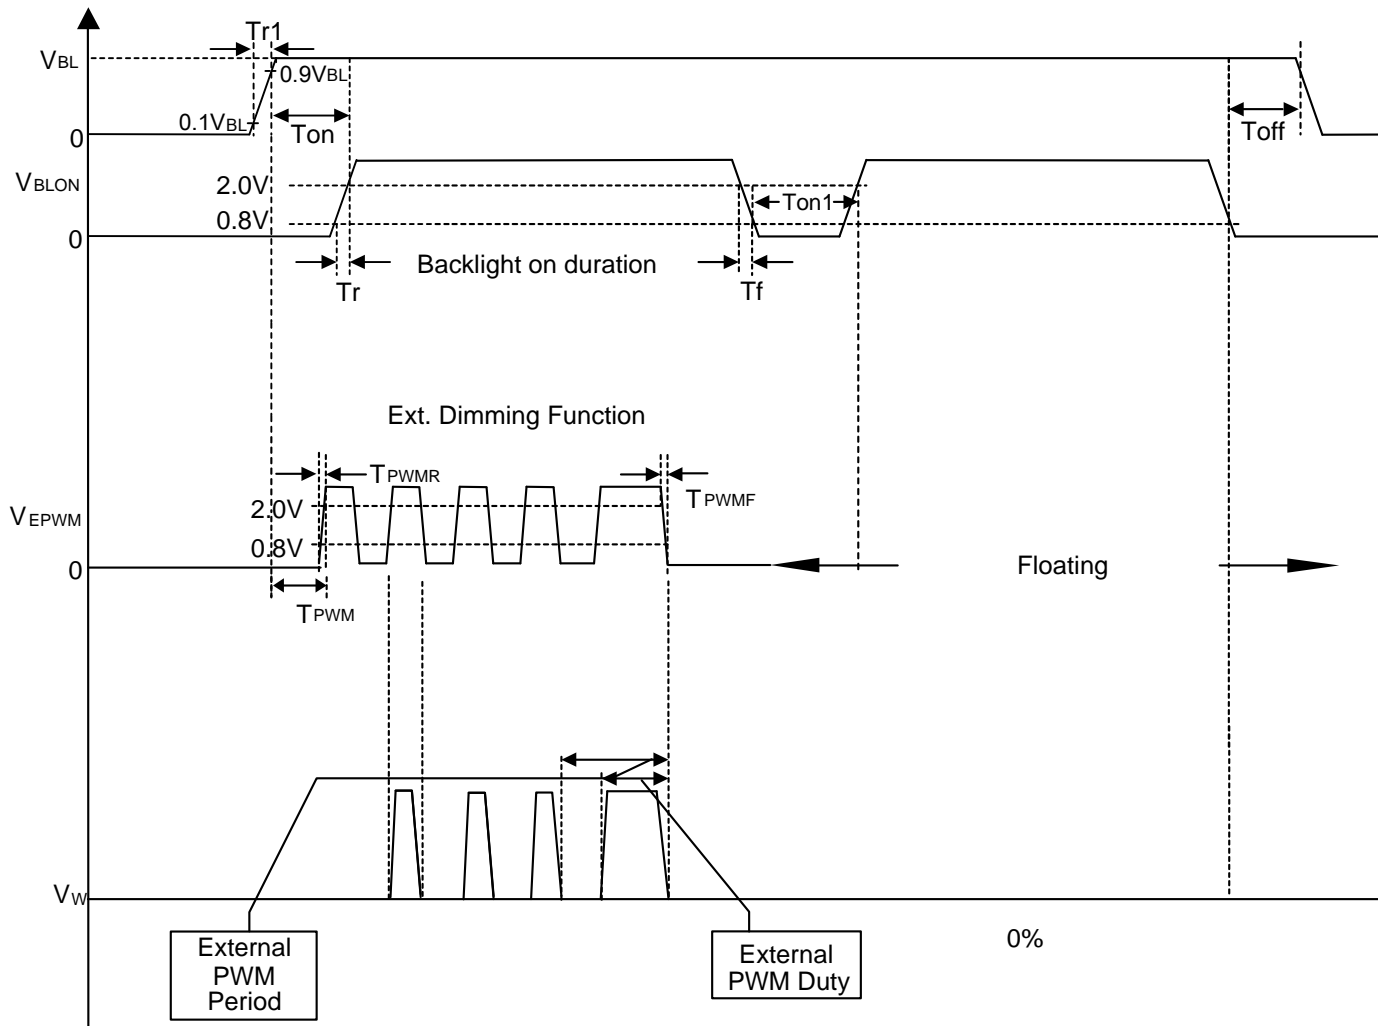

Fig. 1
Note (2) The power sequence and control signal timing are shown in the Fig.1. For a certain reason, the converter has a possibility to be damaged with wrong power sequence and control signal timing.